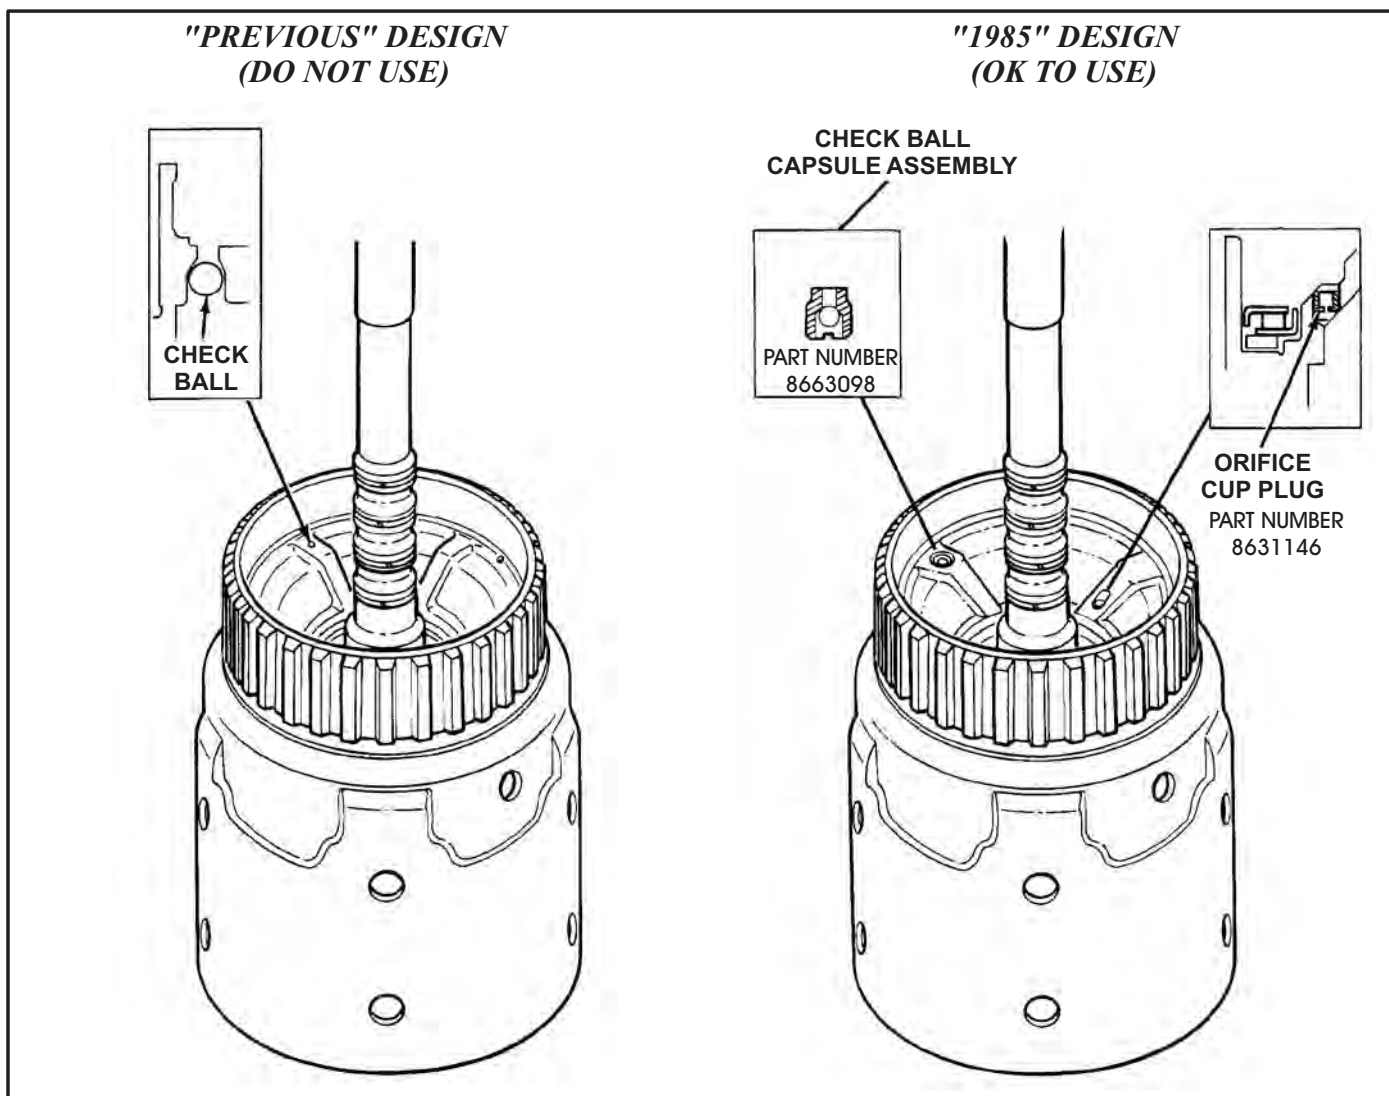

Figure 6
CHANGE: Beginning on January 15, (Julian Date 015) 1984, all THM 700-R4 transmissions were built with a new input housing assembly, as shown in Figure 6. Start of production for 1985, all input housings were also built with an added air bleed cup plug, as shown in Figure 6.
- (1) **INPUT HOUSING ASSEMBLY** - The previous design input housing had a check ball seat drilled into the housing. A check ball was installed into this hole and the opening was then staked to retain the ball, as shown in Figure 6.
The new design **1985** input housing has a check ball retainer assembly which is pressed into the housing, as shown in Figure 6, **and** an added air bleed orifice cup plug.